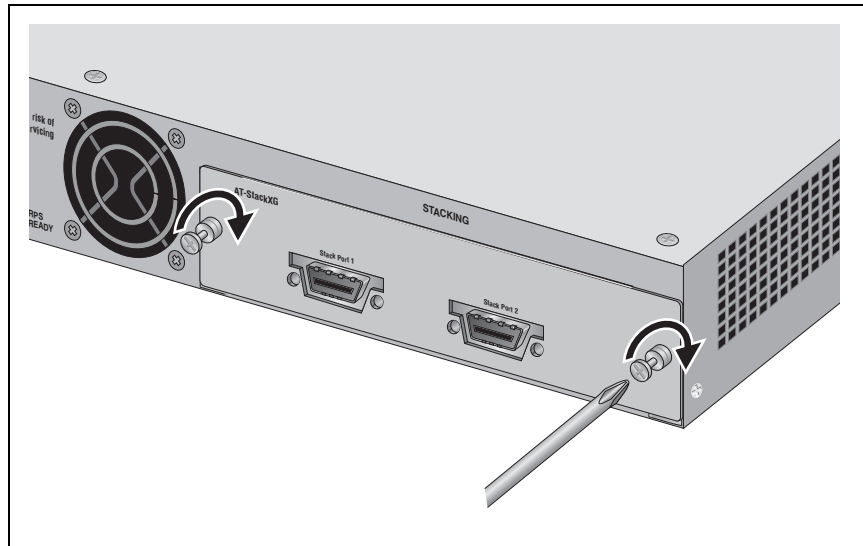
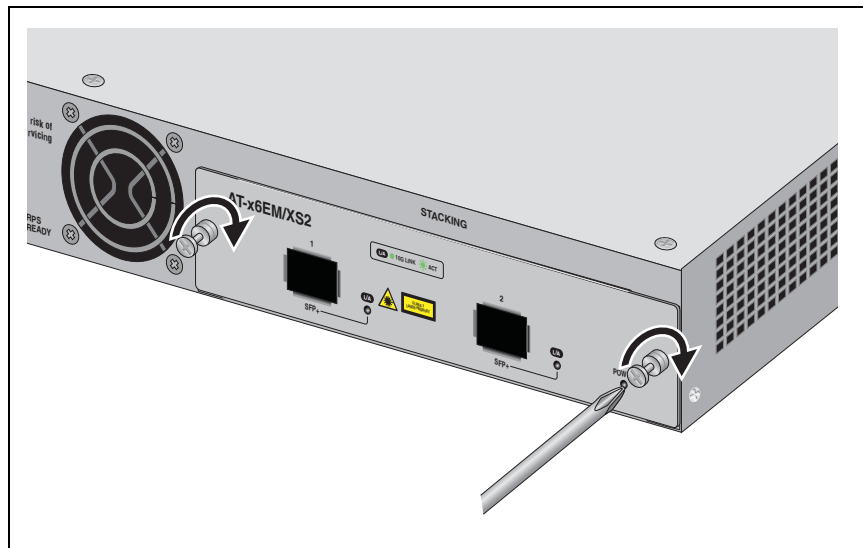

Figure 44. Securing the AT-StackXG Stacking Module
Figure 45. Securing the AT-x6EM/XS2 Stacking Module
4. Secure either the AT-StackXG or AT-x6EM/XS2 stacking module to the chassis by tightening the two captive screws with a cross-head screwdriver, as shown in Figure 44 and Figure 45.